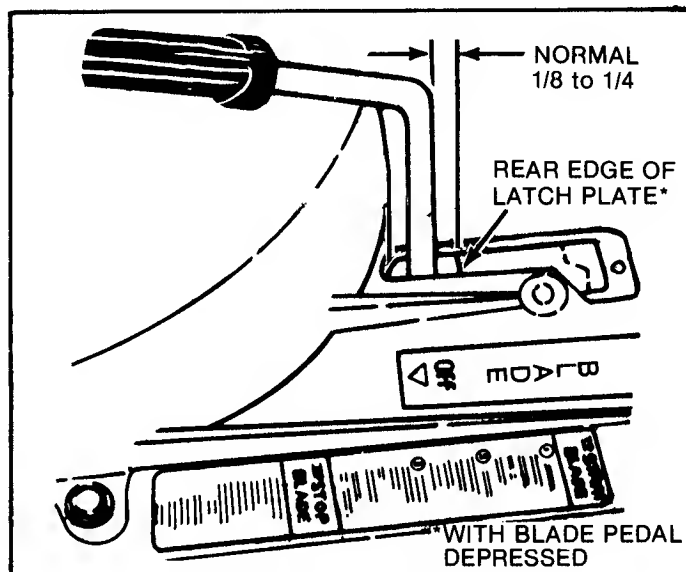

FIG. 8 — BLADE LEVER TRAVEL
**STEP 4:** Release the blade pedal to allow the blade lever to move to OFF position then depress the blade pedal again and check clearance between forward edge of the blade lever and the rear edge of the latch plate which should be within 1/8" to 1/4" (Figure 8). Repeat procedure in step 2 if needed to obtain correct clearance. When correct, hold the blade lever rearward and turn the jam-nut tight against the T-nut to lock in new position.